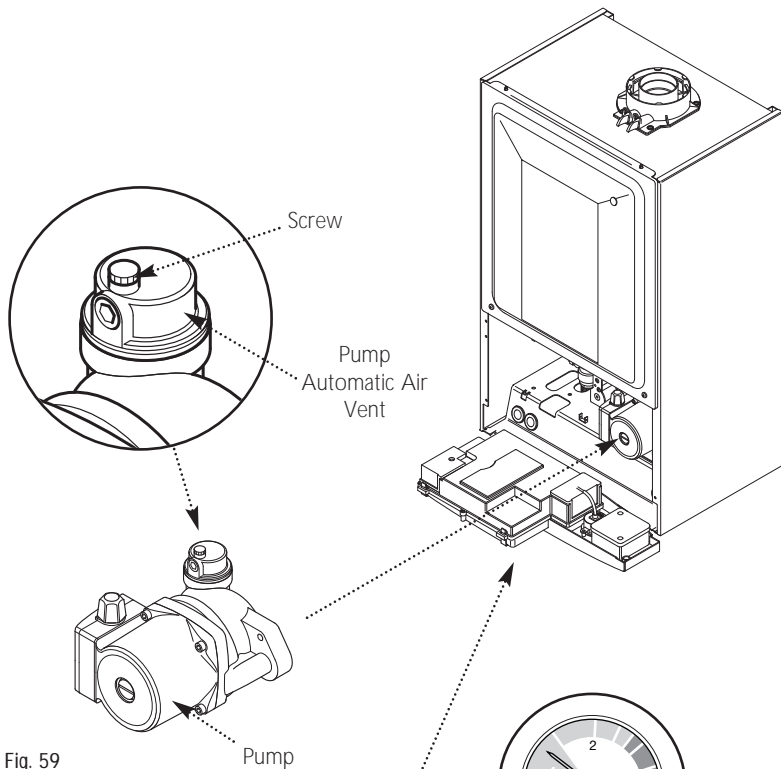

Fig. 59
6. Open the screw on the automatic air vent on the pump body (Fig. 59).